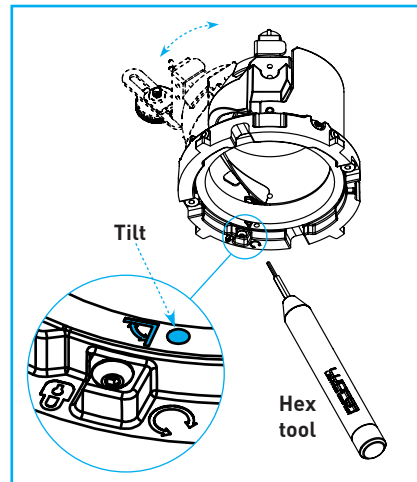

Fig.28
**Tilt:** To adjust tilt, use hex tool engaged with countersunk jack screw and rotate counter-clockwise to increase tilt angle (up to 45° max), or clockwise to decrease tilt angle (Fig.28). **DO NOT TURN SCREW PAST LIMITS OF ADJUSTMENT, DAMAGE TO MECHANISM MAY ARISE.**